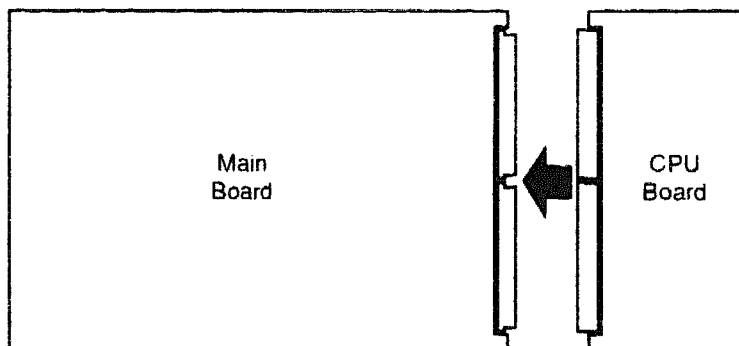

Figure 3-35 - Joining the CPU Board to the Main Board
4. Plug the CPU Board into the connectors on the Main Board (Figure 3-35).